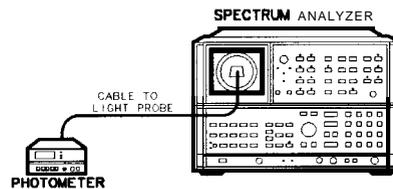

Figure 3-31. Final Display Adjustments Setup
1. Connect the equipment as shown in Figure 3-31.